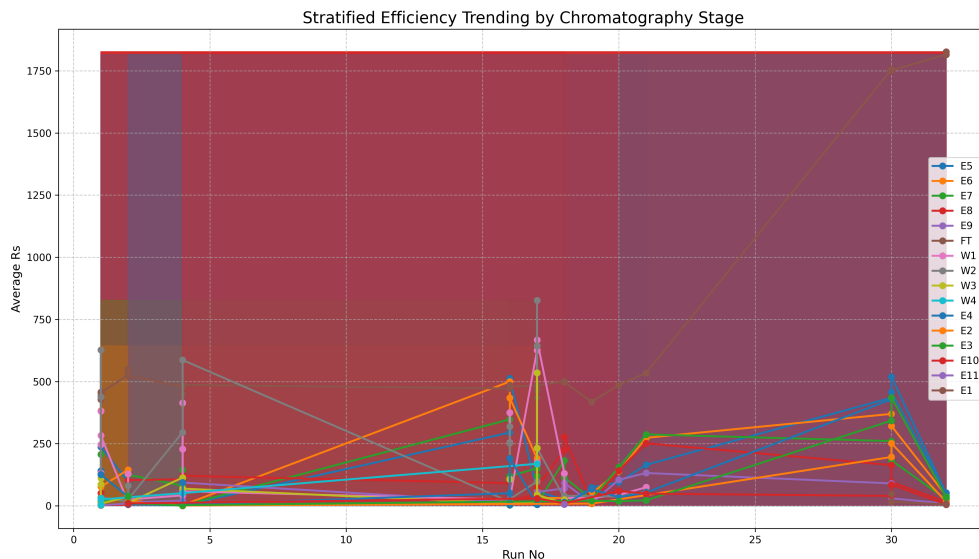

Figure 1: Figure 1: Stratified Efficiency Trending by Chromatography Stage showing the decline in Average Rs over Run No.
The primary result, illustrated in Figure 1, presents a line chart titled 'Stratified Efficiency Trending by Chromatography Stage,' plotting 'Average R_s ' against 'Run No' for four distinct chromatography stages. The data reveals a consistent decline in peak resolution as the run number increases across all stages, indicating a systematic loss of separation efficiency over time. This degradation is likely attributable to column fouling or reagent depletion. A critical observation is that Stage 3 exhibits the most severe degradation, with resolution dropping below the critical threshold of $R_s = 1.5$. This threshold is a standard benchmark for adequate peak separation; values below this indicate significant peak overlap, which could compromise product purity. The secondary axis for Separation Efficiency (N) is present but lacks visible annotation, making it difficult to confirm if the decline in R_s is accompanied by a proportional drop in N . The clustering of points for specific runs suggests that resolution is highly dependent on specific run conditions, which the stratification by stage attempts to isolate. While the methodology successfully filtered negative volume anomalies and